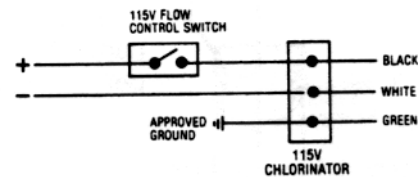

Figure 8 Wiring Diagram 115 V Chlorinator Flow Switch Operated
2. Select the wire schematic diagram to be followed from Figures 8, 9, 10, or 11 and circle for future reference.
4. Remove the electrical box cover from the LAND-O-MATIC and connect the proper color coded 20 gauge (or heavier) wire to the appropriate wires on the LAND-O-MATIC (Figures 8, 9, 10, or 11). Use wire nuts provided. Be sure to install a ground wire.